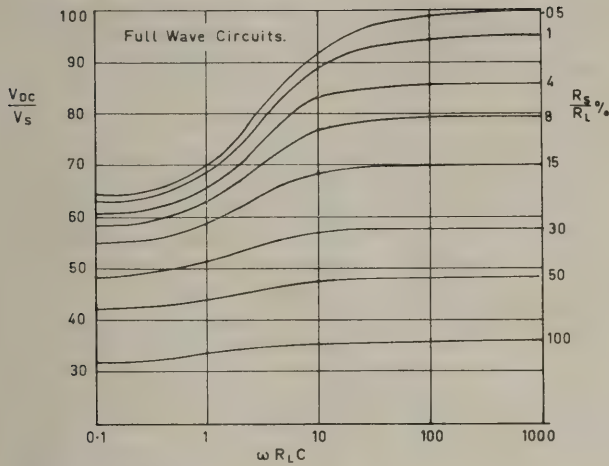
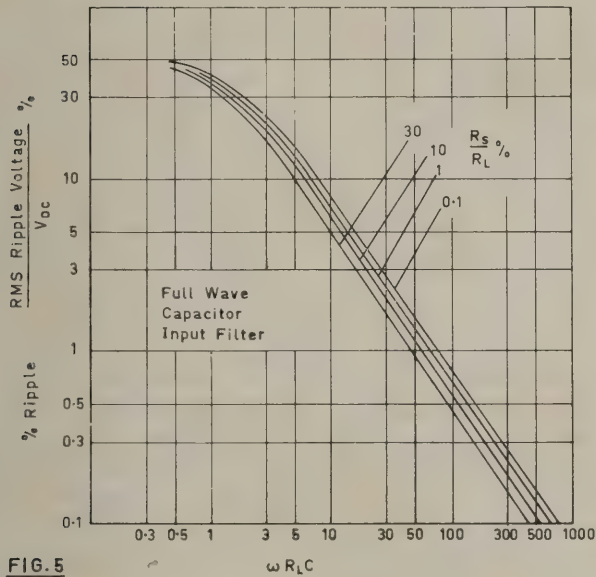

FIG. 4
FIG. 5
Its importance is evident from a study of published design material. Almost without exception the methods used are based upon an initial requirement of ripple content. The method used below is based upon the work, of Schade (1) and it is his method that is used in most references. Figures 4 to 8 are based on those from a recent Mullard publication; (2) that reproduces Schade's graph in a large workable form.
Using figures 4 to 8 which are applicable to either full wave bridge or centre tapped circuits we first determine the value of  $\omega RLC$  from figure 5
Knowing the value of  $\omega RLC$  figure 4 can be used to determine the ratio